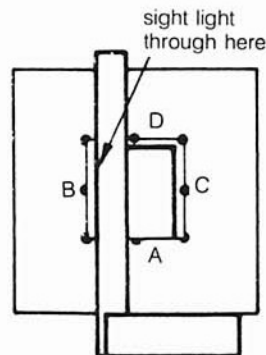

Figure 32 Finish adjacent side
- 5 File side B square to side A and to the work edge (Fig. 32). Use a file with a safe edge.